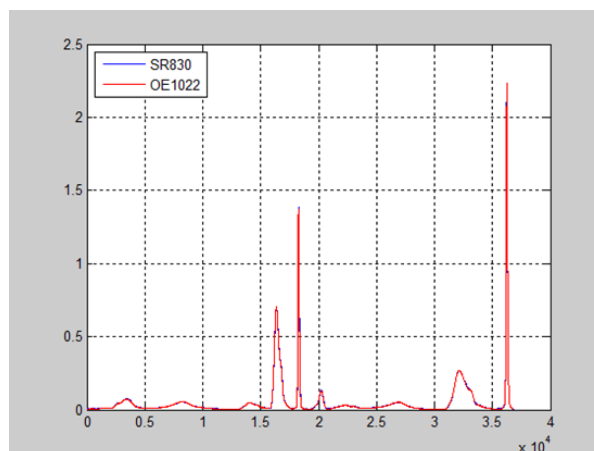

Fig.102 The Contrast Spectrum Chart between SR830 and OE2031
5. Change the OE2031 to the SR830. Repeat the steps above to run the same experiment. Then you will get another spectral image as is shown in Fig.102. You can see that these two images are almost the same.